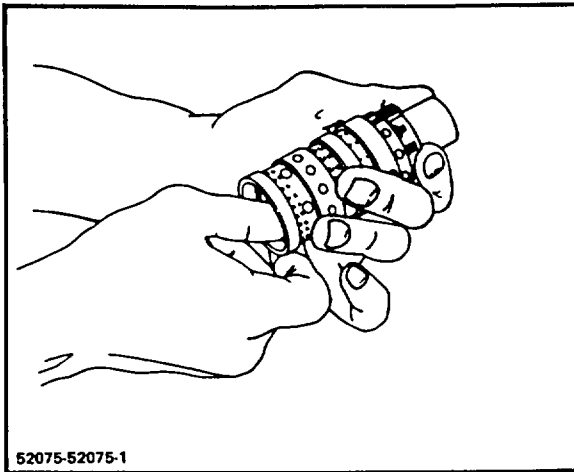

Figure 3-4. Removing Spool From Sleeve
10. Push the inside lower edge of the spool so that the spool moves towards the splined end (Fig 3-4). Carefully remove the spool from the sleeve.
12. Remove the check valve set screw (8). Bend a slight hook in the end of a length of wire and insert it through the check ball seat (10). Hook and remove the check ball seat. Remove the check ball (12) and check ball retainer (13).